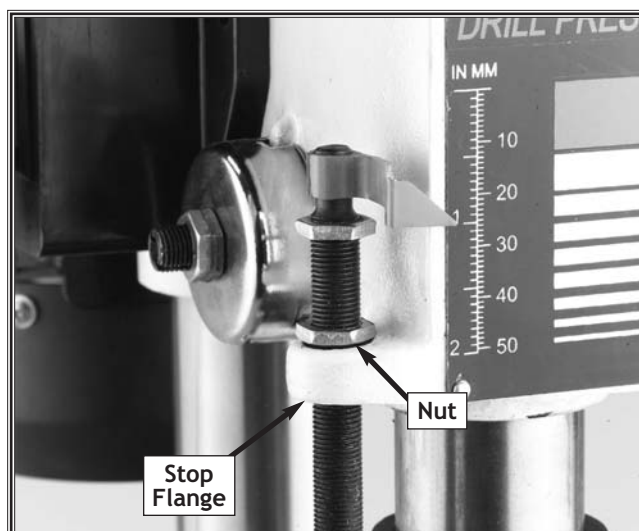

Figure 31. Nut contacting stop flange.
5. Turn the lower nut while maintaining this depth until the nut comes into contact with the stop flange. See **Figure 31**.